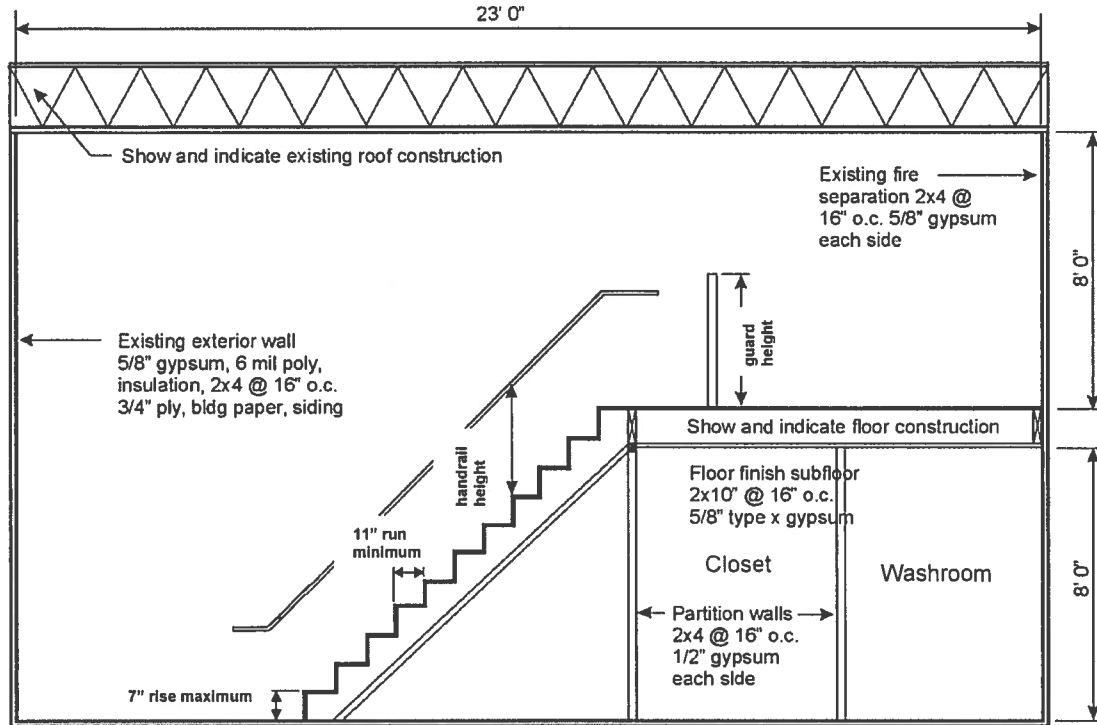

Figure 5 Cross Section A-A (to be 1/4"=1'-0")
**Cross Section** (See Figure 5):